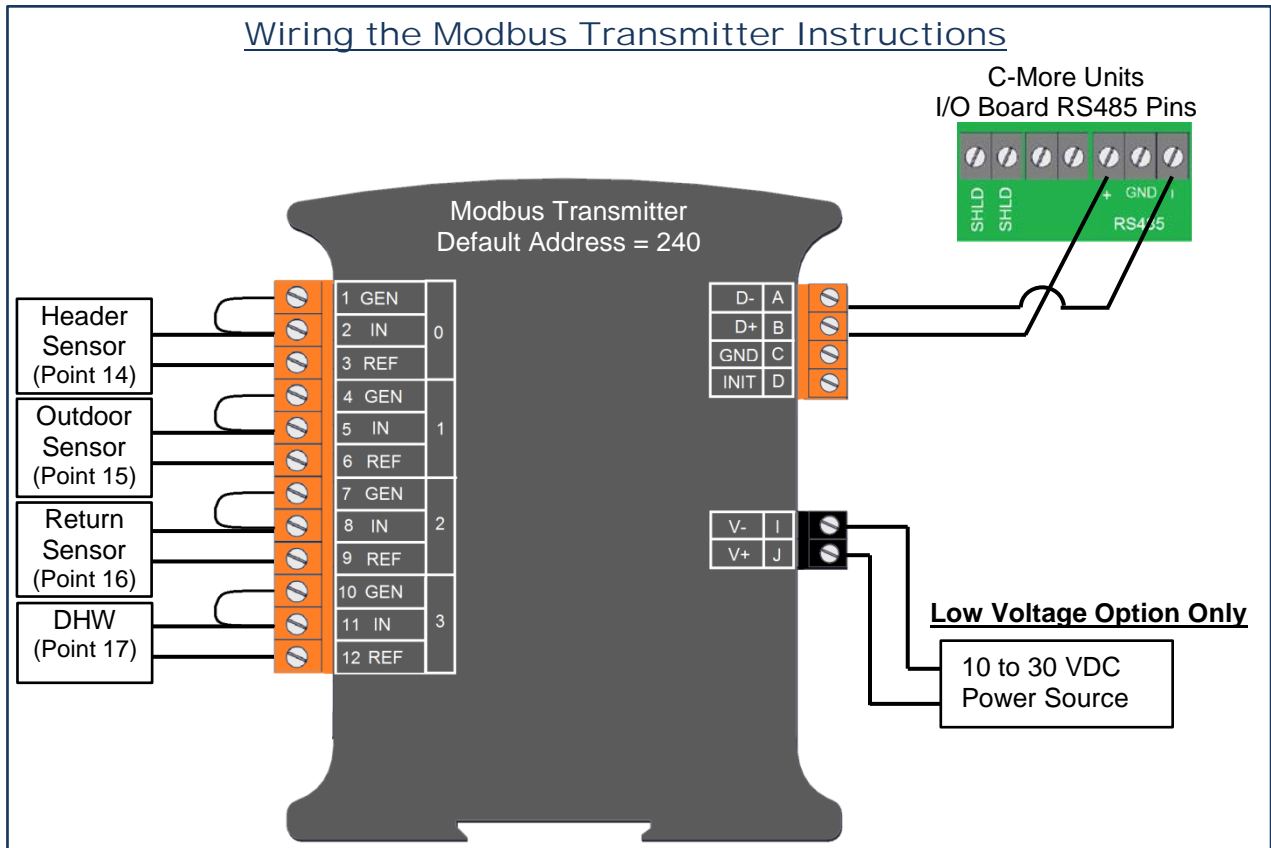

Figure 4: Modbus Transmitter Terminals
- Connect a **10 to 30 VDC** power source to the power terminals on the Modbus Transmitter (see Figure 4).